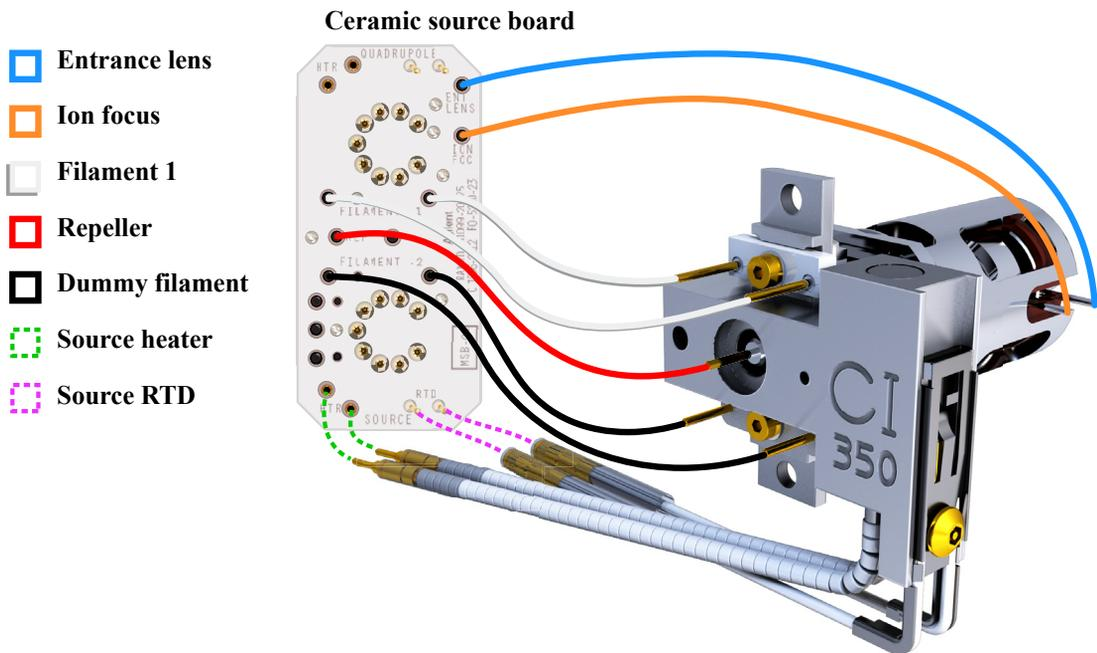

Figure 74 Wiring between the ceramic source board and the source
- 1 Use pliers to connect/disconnect the ceramic board wire leads at the source connectors. (See Figure 74.)
- 2 Use pliers to connect/disconnect the source heater wire leads at the ceramic source board. (See Figure 74.)